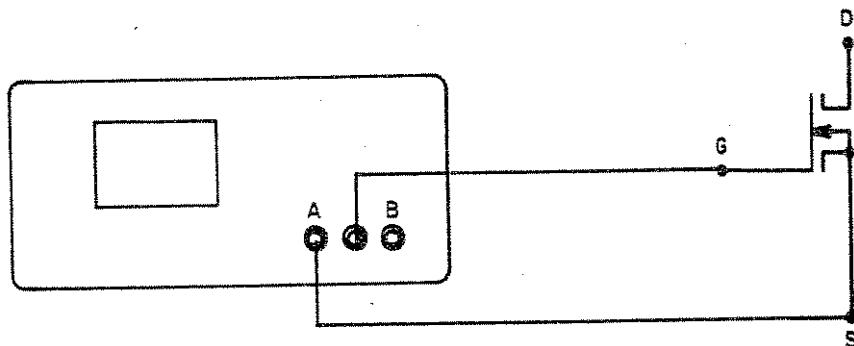
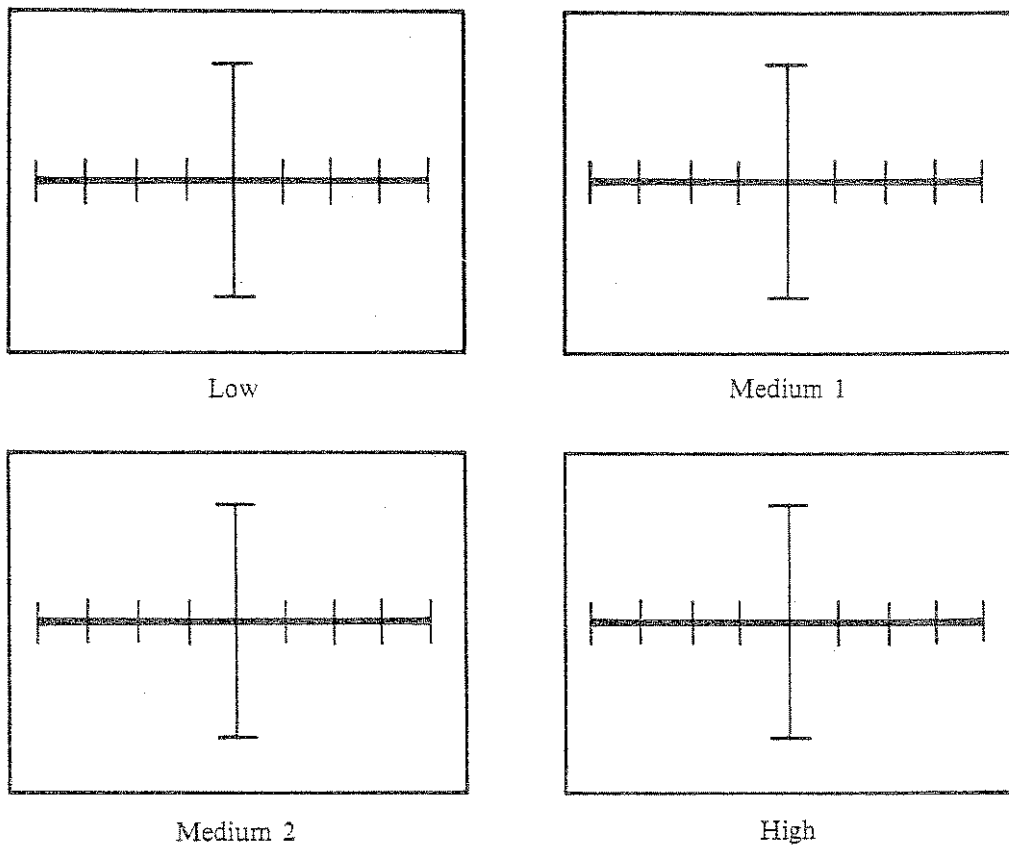

Figure 4-42. Source-Gate Test Circuit
Figure 4-43. S-G Signatures of an N-channel Enhancement Mode MOSFET (VN10LM) at 60Hz
To test the gate and source of the VN10LM, connect the test probes to the gate (G) and source (S) terminals as shown in Figure 4-42. Note that the drain (D) terminal is not connected. Figure 4-43 shows the signatures.